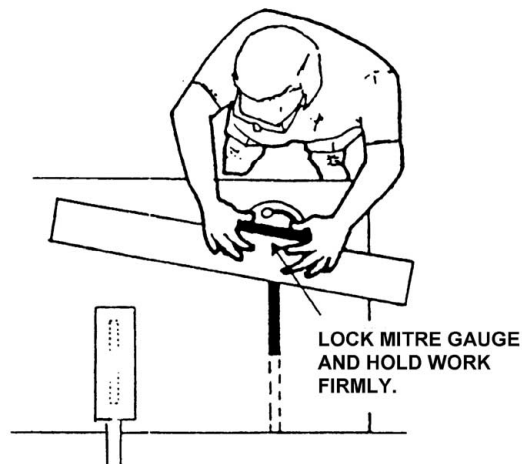

Figure 45
2. Crosscuts made at an angle to the edge of the workpiece are called miters. Set the miter gauge at the required angle, lock the miter gauge, and make the cut the same as a normal crosscut, holding the workpiece tightly to prevent creeping (Figure 45).